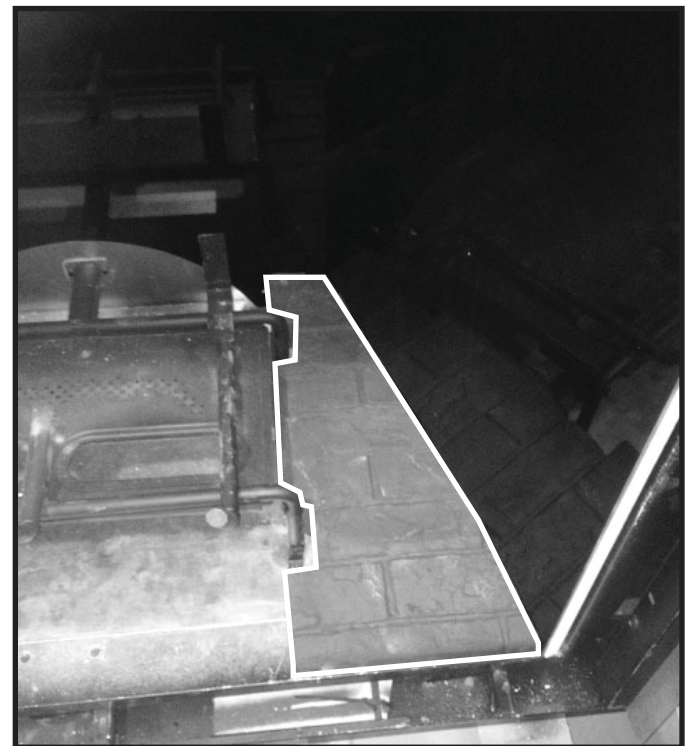
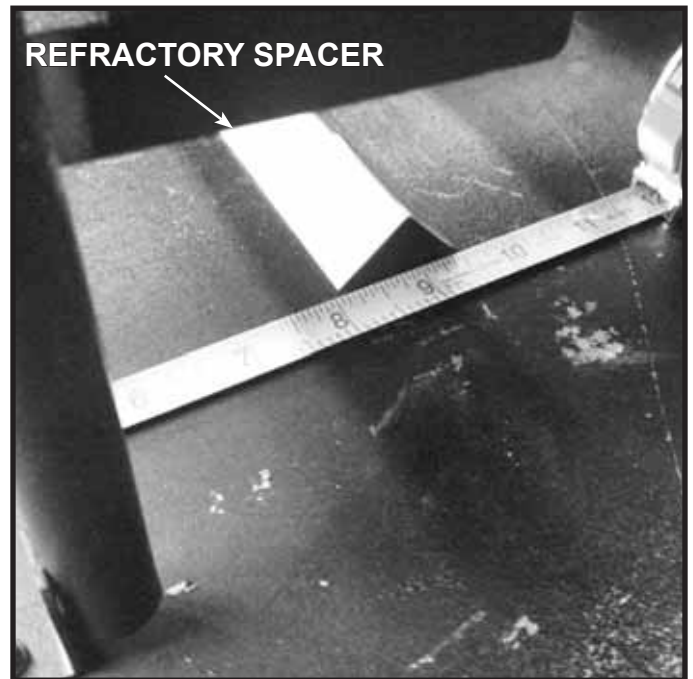

Figure 13. Right Base Refractory
Figure 16. Refractory Spacer Installed
12. Install the right base refractory by setting the left edge on the firebox bottom. Place it adjacent to the grate and move the right side downward into place. Ensure that the front lip of the base refractory is flush with the firebox edge. See Figure 13 and Figure 16.
\* Outlines on Figures 13, 14, 15 and 17 show the correct placement of refractory. Refractory parts must be flush with both bases, spacers and panels.
15. Install refractory spacer approximately nine inches from the front edge of the appliance. Position it as shown in Figure 16 centered under the grate with the point facing up. The refractory spacer prevents turbulence under the center refractory. The absence of turbulence promotes sharper looking flames. See Figures 16 and 17.